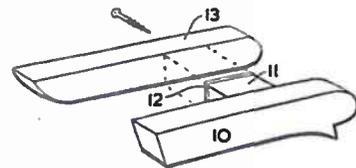

Fig. 3
The plunger is next made up. Piece 11 is glued to piece 10, and to this is glued the piece of card (12). See Fig. 3 for detail. This completed assembly is passed through the hole near the top of the partition and piece 13 is then glued and screwed to the other side of piece 12, making a rigid whole capable of movement within the partition slot.